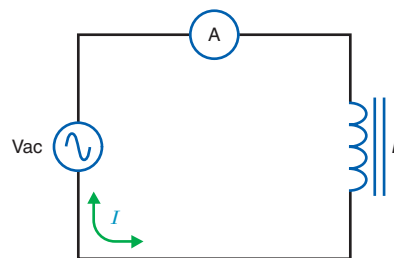

Figure 19-10
- 19.6 In Fig. 19-10, how much is the inductive reactance, X_L , for each of the following values of Vac and I ?